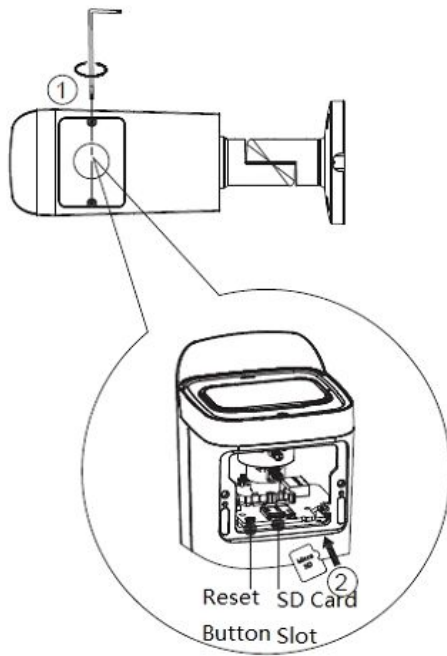

Figure 2-6
Step 2 Slightly press the RESET button for 15-30 seconds to complete the reset function. See Figure 2-6. The camera will reboot when the reset process is complete.
Step 3 (If installing SD Card) Adjust the Micro SD Card to a proper direction shown in Figure 2-6. Close the access panel, tighten down locking screw and reinstall camera.